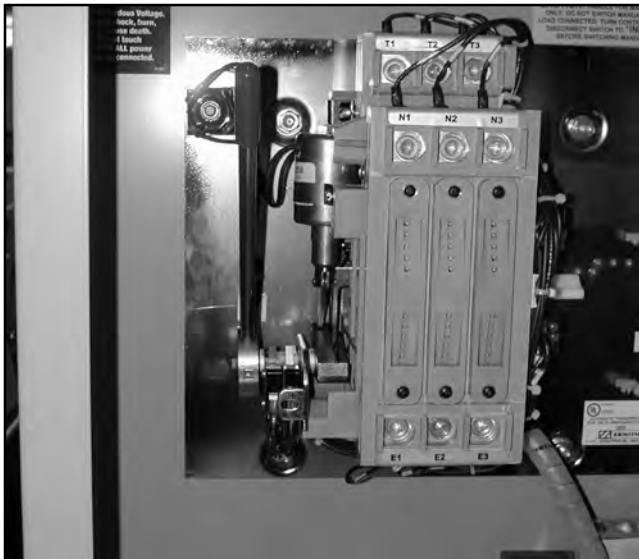

Figure 6-9 Manual Operation Handle Inserted
11. Manually operate the switch several times to ensure that it does not stick. See Figure 6-9.